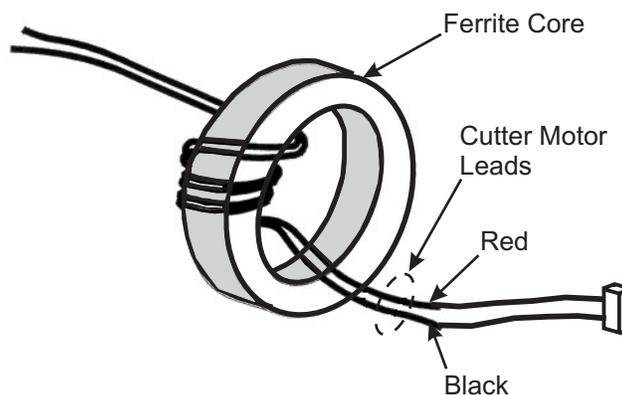

Figure 6-38. Cutter Motor Leads
8. Refer to Figure. 6-38. Wind the motor leads around the ferrite core.